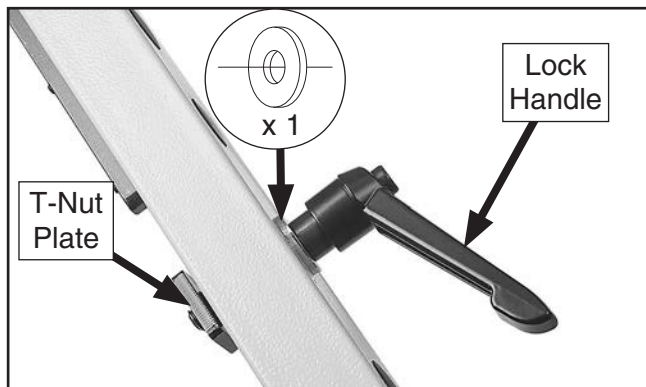

Figure 41. Crosscut lock handle installed on crosscut table.
36. Thread M12-1.75 x 55 adjustable lock handle with a 12mm flat washer through hole in short side of crosscut table and into a M12-1.75 T-nut plate, as shown in **Figure 41**.